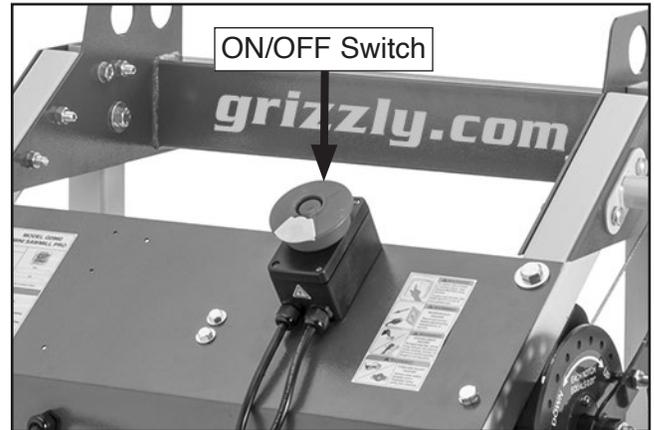

Figure 61. Location of ON/OFF switch.
5. Turn machine **ON** by pulling ON/OFF switch out (see **Figure 61**). Verify motor operation, then turn machine **OFF** by pressing ON/OFF switch in.